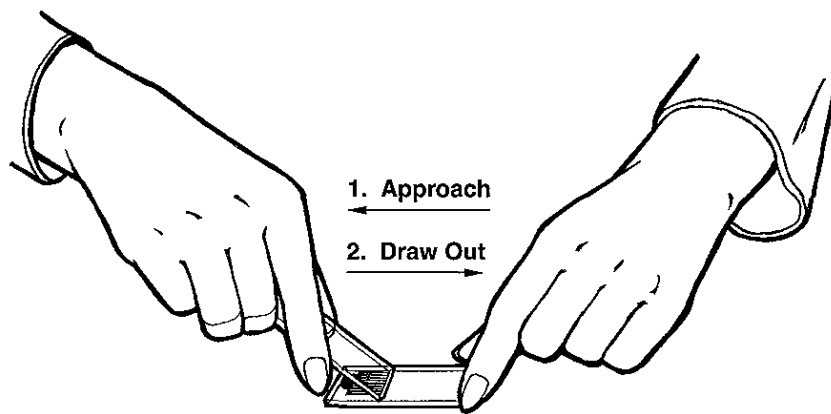

Figure 4-1
6. Pick up a small drop of blood with the slide (do not touch the slide to the skin) so it is about  $\frac{1}{2}$  inch from the end of the slide. Approach the drop with another slide at about a  $30^\circ$  angle. Allow the blood to run across the edge of the spreader slide, then push the spreader slide forward with a steady even motion, as illustrated in Figure 4-1. Observe the following precautions when making the smear: